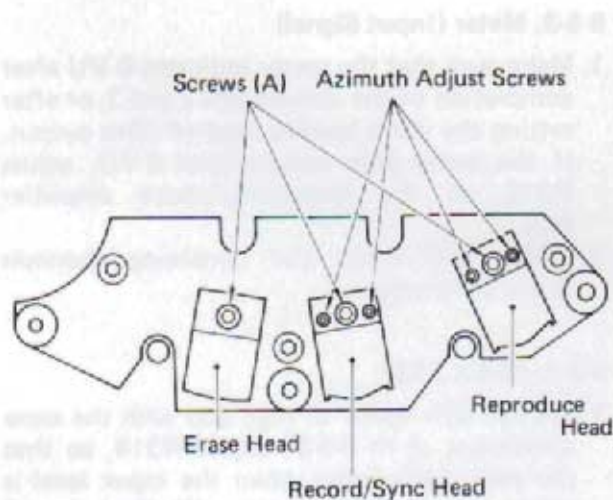

Fig. 9-5-5. Head Adjustment Screws
3. Loosen the mounting screw (A) on the reproduce head (see Fig. 9-5-5). Then vary the mounting direction of the head with tape travel for a maximum level reading on each of the VU meters, and fully retighten the screw at that position.